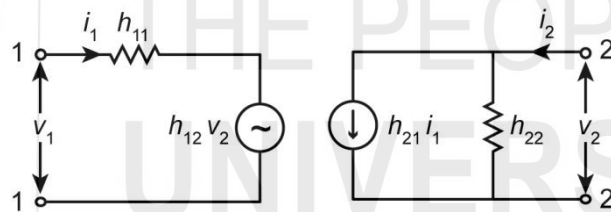
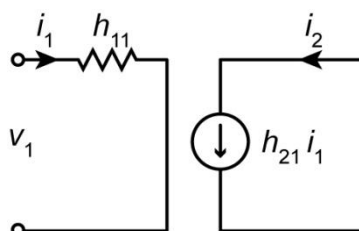

Fig. 5.3: 4-terminal network with  $h$ -parameters.
Fig. 5.4:  $h$ -parameter circuit with short circuited output.
Fig. 5.3 shows the circuit with  $h$ -parameters.
Refer to Fig. 5.3. To understand the meaning of  $h_{11}$  and  $h_{21}$ , let us assume that the output terminals (2-2) are short circuited as shown in Fig. 5.4, then the output voltage  $v_2$  will be zero.
After learning about the input impedance and current gain, let us find out the significance of remaining two  $h$ -parameters. For this purpose, we take the input terminals (1-1) in Fig. 5.3 to be open as shown in Fig. 5.5. With this, we get zero current entering the circuit from input side and so  $i_1 = 0$ . Hence, Eqs. (5.3) and (5.4) take the following form:
- In the circuit shown in Fig. 5.4,  $v_1 = 50 \text{ mV}$ ,  $i_1 = 20 \mu\text{A}$  and  $i_2 = 4 \text{ mA}$ . Calculate the input impedance and current gain of the circuit.